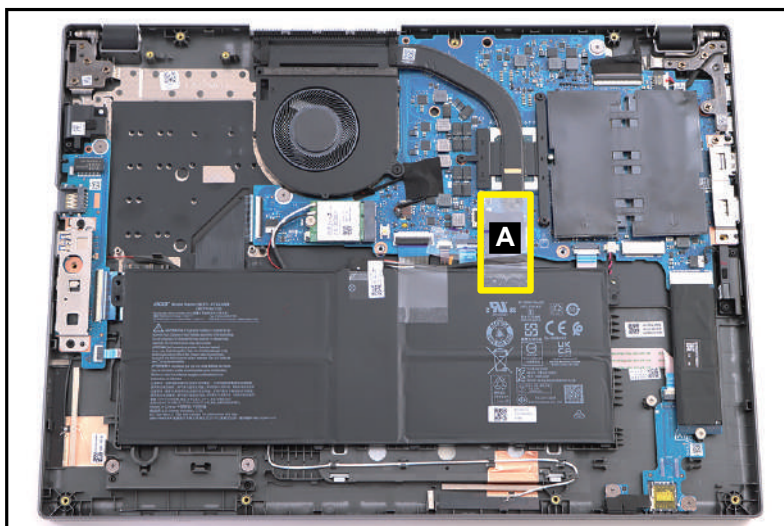

Figure 3-7. Battery Pack Removal
1. Detach the mylar (A) as shown in Figure 3-7.